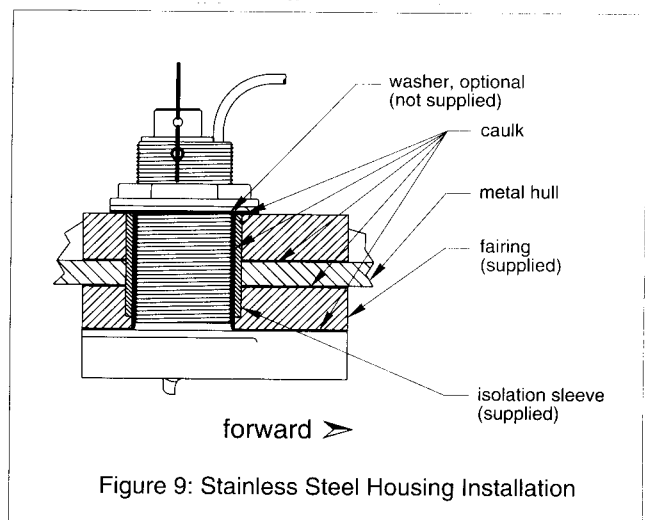

Figure 9: Stainless Steel Housing Installation
- Refer to Figure 9 for caulking application, and assembly of isolation sleeve. The isolation sleeve **MUST** be used to prevent metal to metal contact. Normally you should not have to cut the sleeve. (An exception is when the fairing block is mis-cut and more fairing block material must be removed on a second cut. The sleeve may then be too long, extending above the fairing block. In this case only, the sleeve would have to be shortened.)